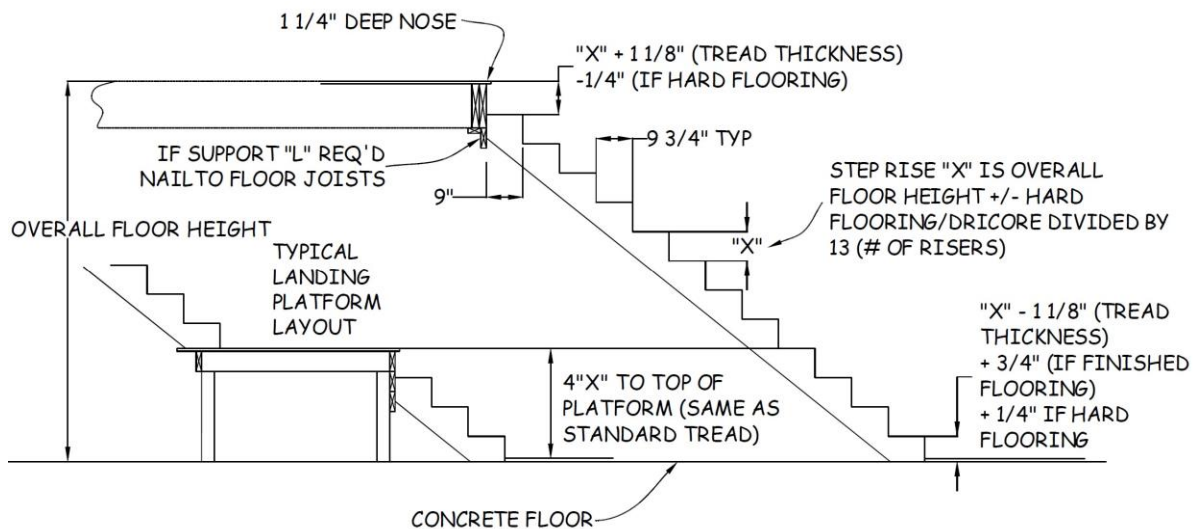

Figure 4-4. Stair Stringer Installation.
4. Reduce the height of the last riser at the bottom of the stringer by $1\frac{1}{8}$ " (the thickness of the tread), unless the basement floor is to be finished. If the basement floor is to be finished, reduce the height of the riser by only $\frac{3}{8}$ ". This will accommodate the $1\frac{1}{8}$ " thickness of the tread and the $\frac{3}{4}$ " thickness of the DRICore (see Figure 4-4).
12. Use the last calculation in Figure 4-2 (Top Step Rise) and measure that distance down from the underside of the deck. Make a line on the stairwell framing at this point. This line marks the location of the tops of the three stringers (Figure 4-4).
1. A landing, if required, is a "joist" box made of 2x6's covered with 3/4" floor decking with floor joists installed on 16" centers (see Figure 4-4).